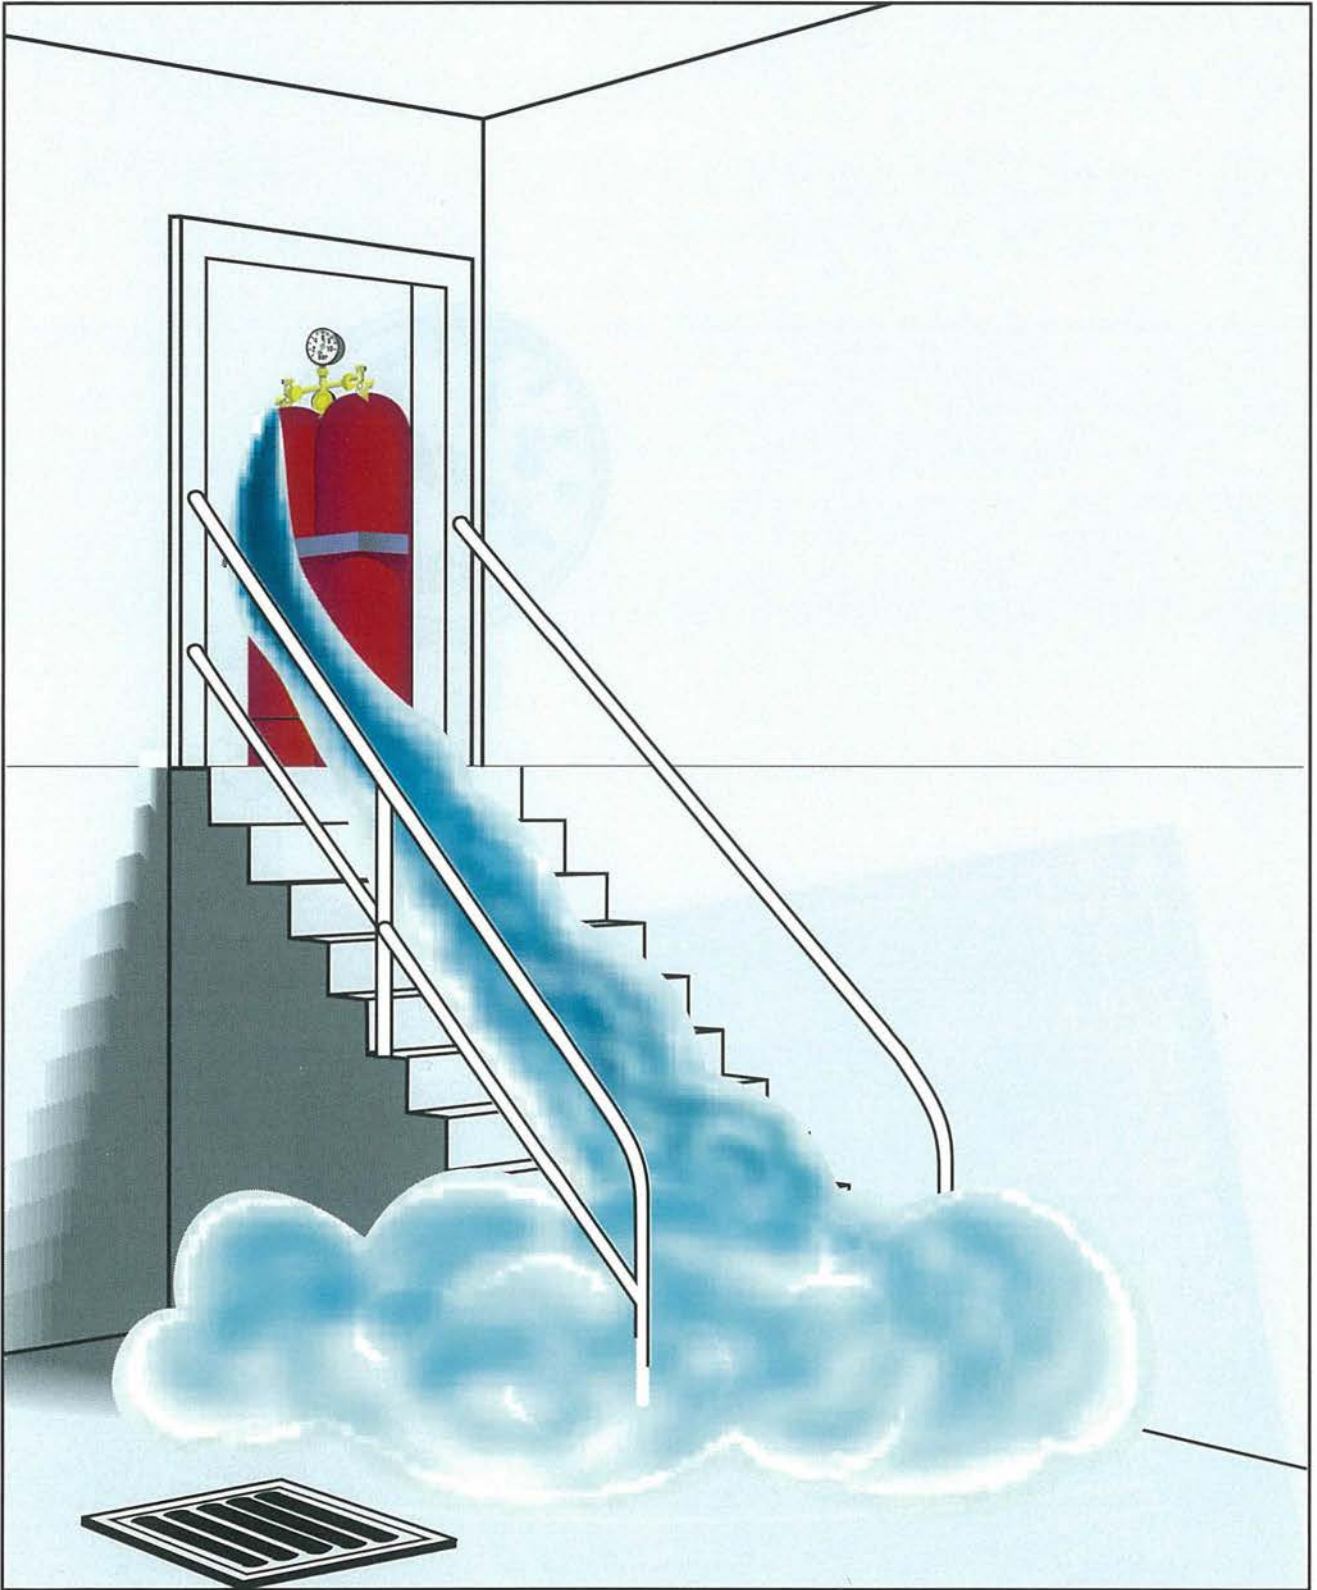

Fig. 7: The spreading of liquefied gas
- From the densities of propane, butane and air, it follows that liquefied gas in the gaseous state is approximately twice as heavy as air and hence sinks to the floor and like a liquid can flow to the lowest point, e.g. to lower-lying rooms (Fig. 7).